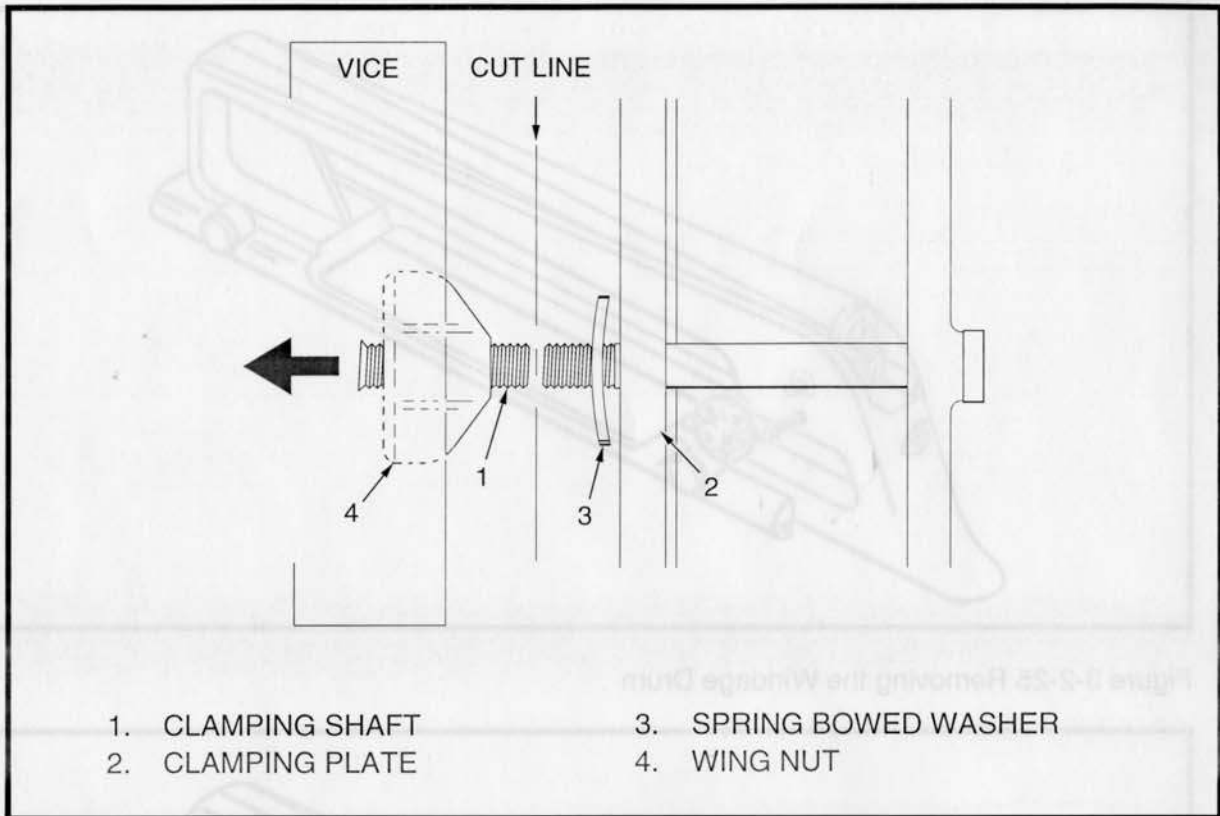

Figure 3-2-27 Removing the Wing Nuts from the DIS
- f. To remove the wing nuts, refer to Figure 3-2-27 and proceed as follows:
- (1) Secure the DIS in a vice and cut the clamping shafts (1), through the threaded section, with a hacksaw.